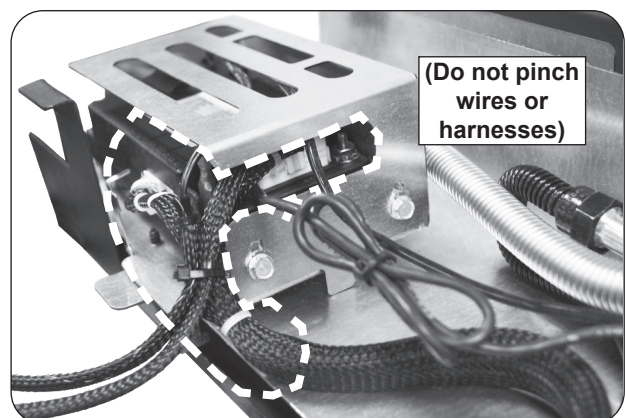

Fig. 2-4 Reinstall heat shield
3. Reinstall the heat shield (see Fig. 2-4).